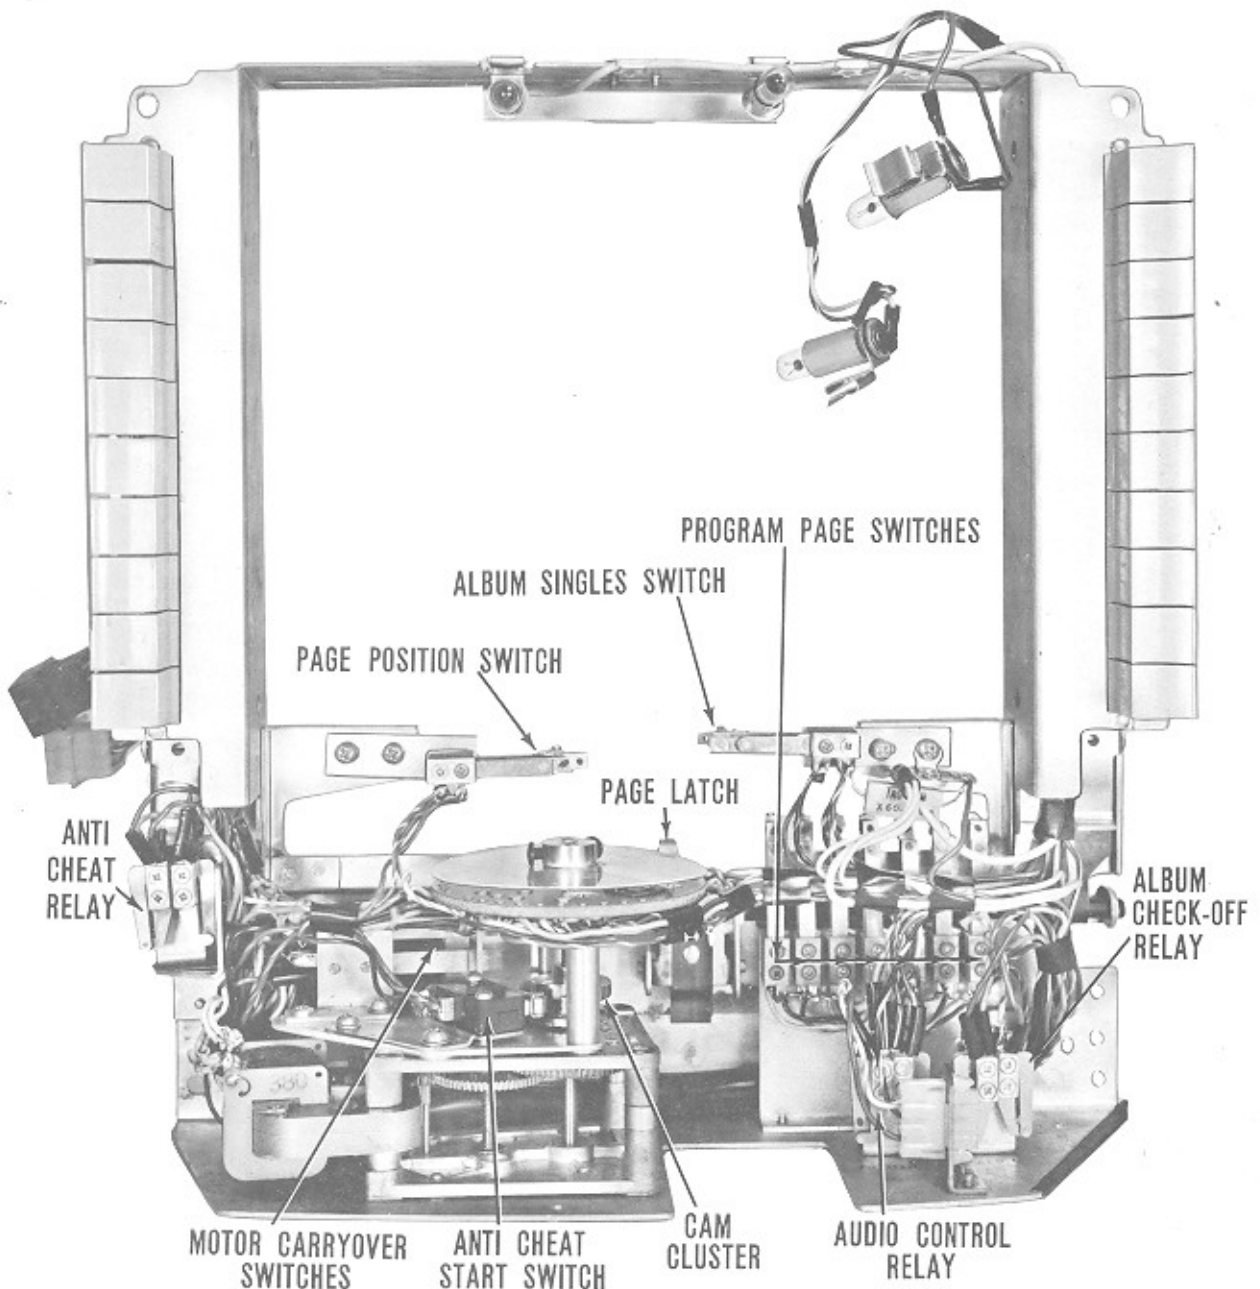

Figure 3
- The center cam operates an Anti-Cheat Switch and four Motor Carry-over Switches. (See Fig. 3)